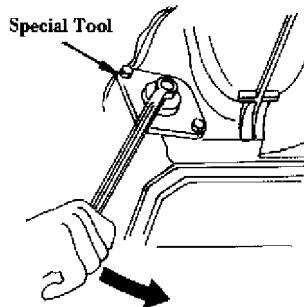

Fig. 2: Using Flywheel Turning Tool
- 4) Remove the special tool (Fig. 2) and reinstall the starter.